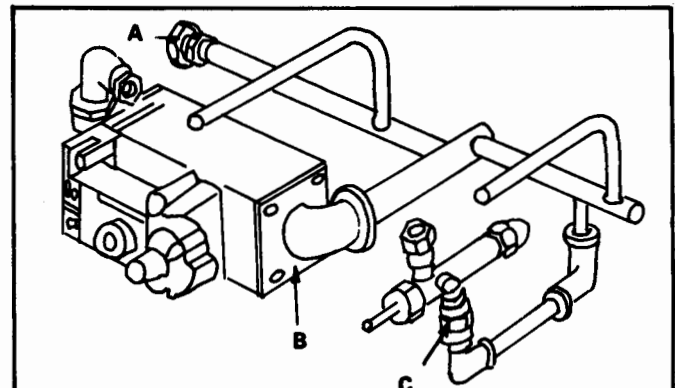

Fig. 9b – Gas Joints Under Base Plate – Open & Balanced Flue
- 4a. With the appliance gas service cock **ON**, conduct pressure soundness testing of **ALL** incoming gas carrying joints and components beneath the combustion chamber base at the following joints:- See appropriate Fig. 9b.